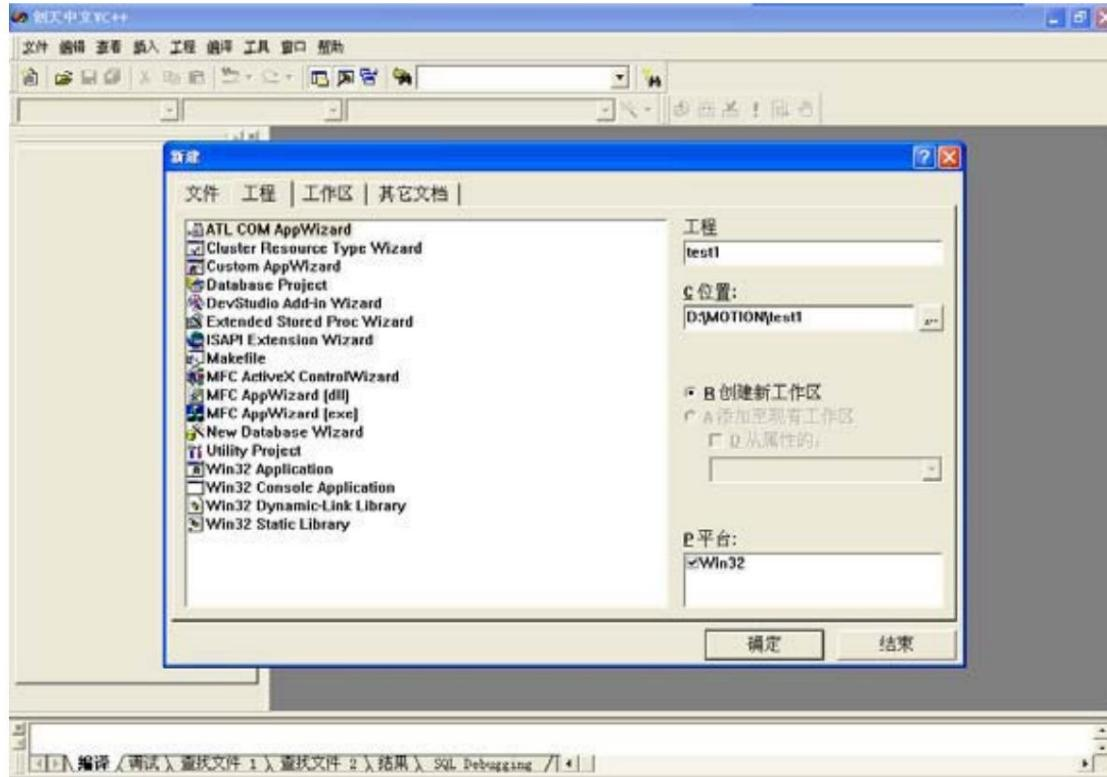

Figure 7-7 Create a new project
(1) Open Visual C++ 6.0;
- (2) Create a new project;
- (3) Select MFC APPWizard(exe);
- (4) Select the project save path, such as: E:\;
- (5) Enter the project name, such as: test1. As shown in Figure 7-7: